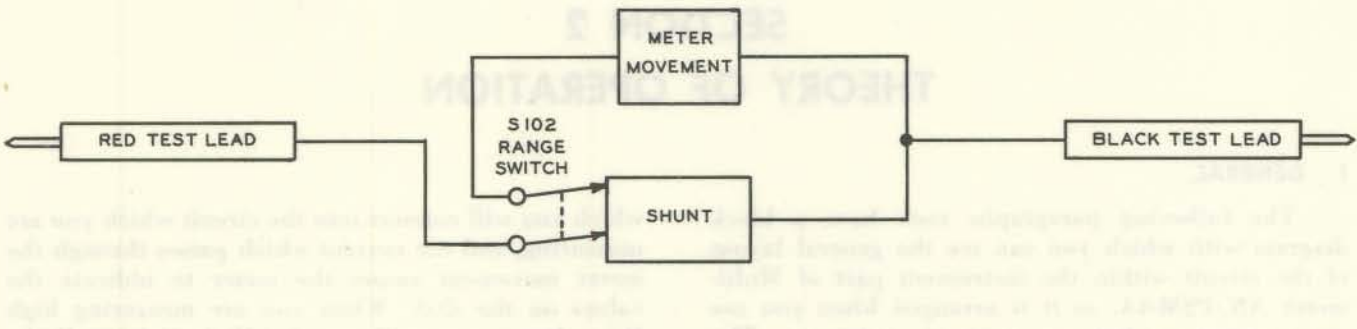

Figure 2-3. Functional Block Diagram of DC Current Circuits.
c. DC CURRENT CIRCUITS. (See figure 2-3).— The circuit which measures DC current is selected with the DC  $\mu$ A MA AMPS position of function switch S-101. For currents up to 1000 milliamperes, the range is selected with range switch S-102. For the 10 ampere range, the Red Test Lead connects the